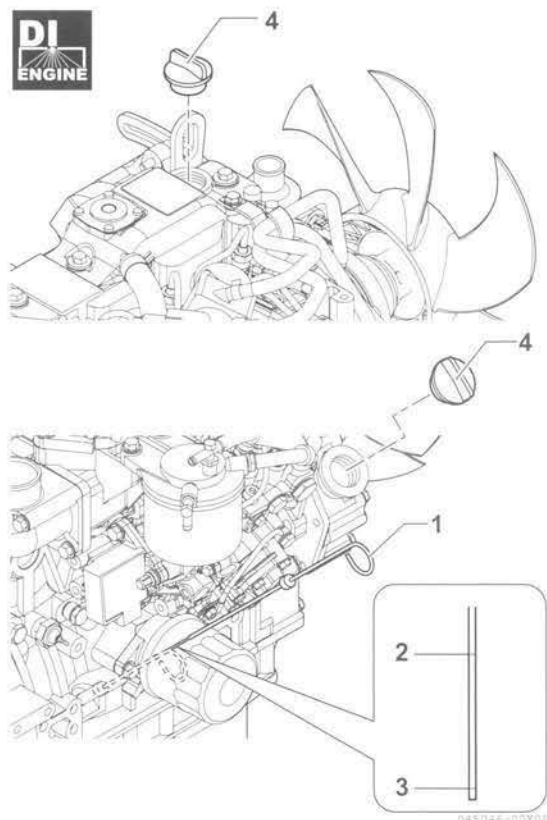

Figure 21
8. Add engine oil to engine oil filler port (5, **Figure 21**) as needed until the level is between the upper (2, **Figure 21**) and lower lines (3, **Figure 21**) shown on the dipstick (1, **Figure 21**).
9. Reinstall the oil filler cap (4, **Figure 21**). If any engine oil is spilled, wipe it away with a clean cloth.